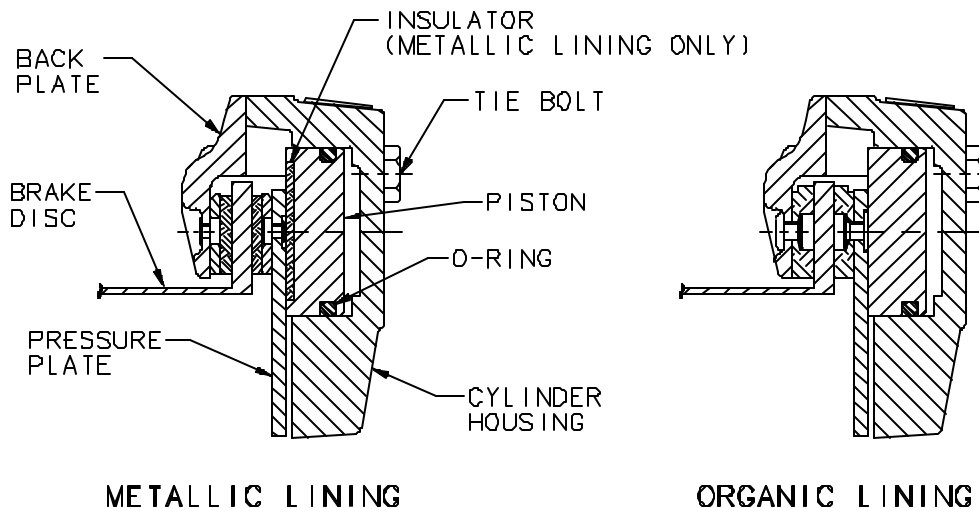

FIGURE 1- CROSS-SECTIONAL VIEW SHOWING CORRECT PISTON ORIENTATION FOR BRAKE ASSEMBLIES WITH METALLIC OR ORGANIC LINING
APPLICABILITY: The following chart has been created to assist maintenance personnel in identifying those brake assemblies that are in production. The procedures discussed in this publication are applicable to any external brake assembly products that use a piston that is flat on both ends. (Ref Fig. 1 on page 2.)
2. If the o-ring is visible then disassemble, inspect and reinstall piston with proper orientation in accordance with the Figure 1 above and AWBCMM0001 Component Maintenance Manual (available from Web site: www.parker.com/cleveland) prior to installation on the aircraft.